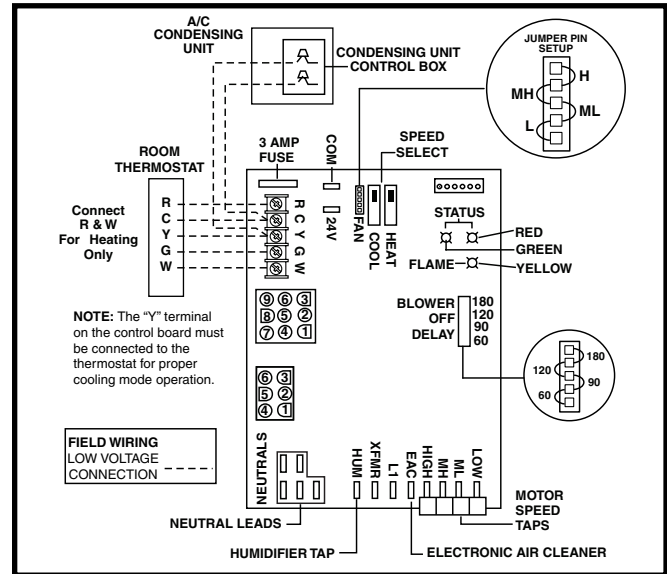

Figure 27. Low Voltage Field, Four-wire Heating/Cooling Applications
- The thermostat must be installed according to the instructions supplied by the thermostat manufacturer. Low voltage connections (24 VAC) from the thermostat are wired to the terminal strip on the integrated control in the furnace. Figure 27 contains the proper connections for heating only (two-wire) and heating/cooling (four-wire) applications. Recommended minimum wire gauge for thermostat wiring is shown in Table 5 \(page 24\).
- ✓ Verify the jumper setting (for fan speed) on the control board. To select fan speed, see Figure 27 \(page 25\) and set the jumper on the control board.